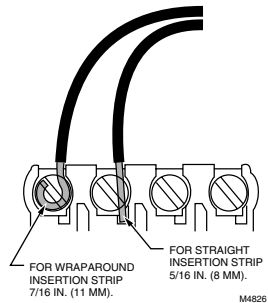

Fig. 8. Proper wiring technique.
- 1 Loosen the terminal screws on the subbase and connect the system wires. See Fig. 8.